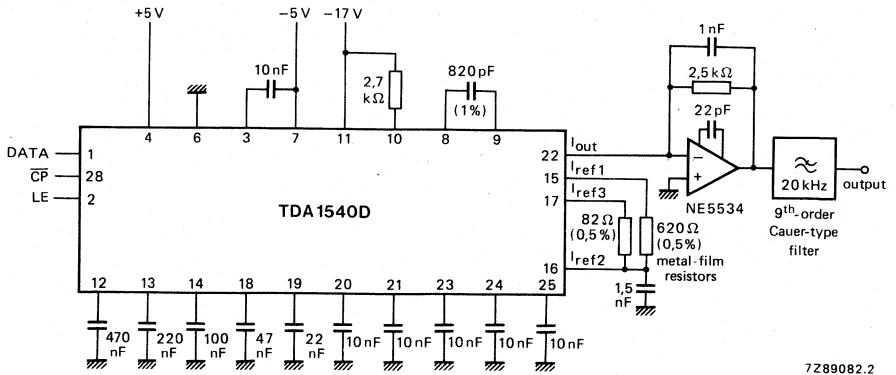

Fig. 4 Application circuit.
**CHARACTERISTICS** (see application circuit Fig. 4)